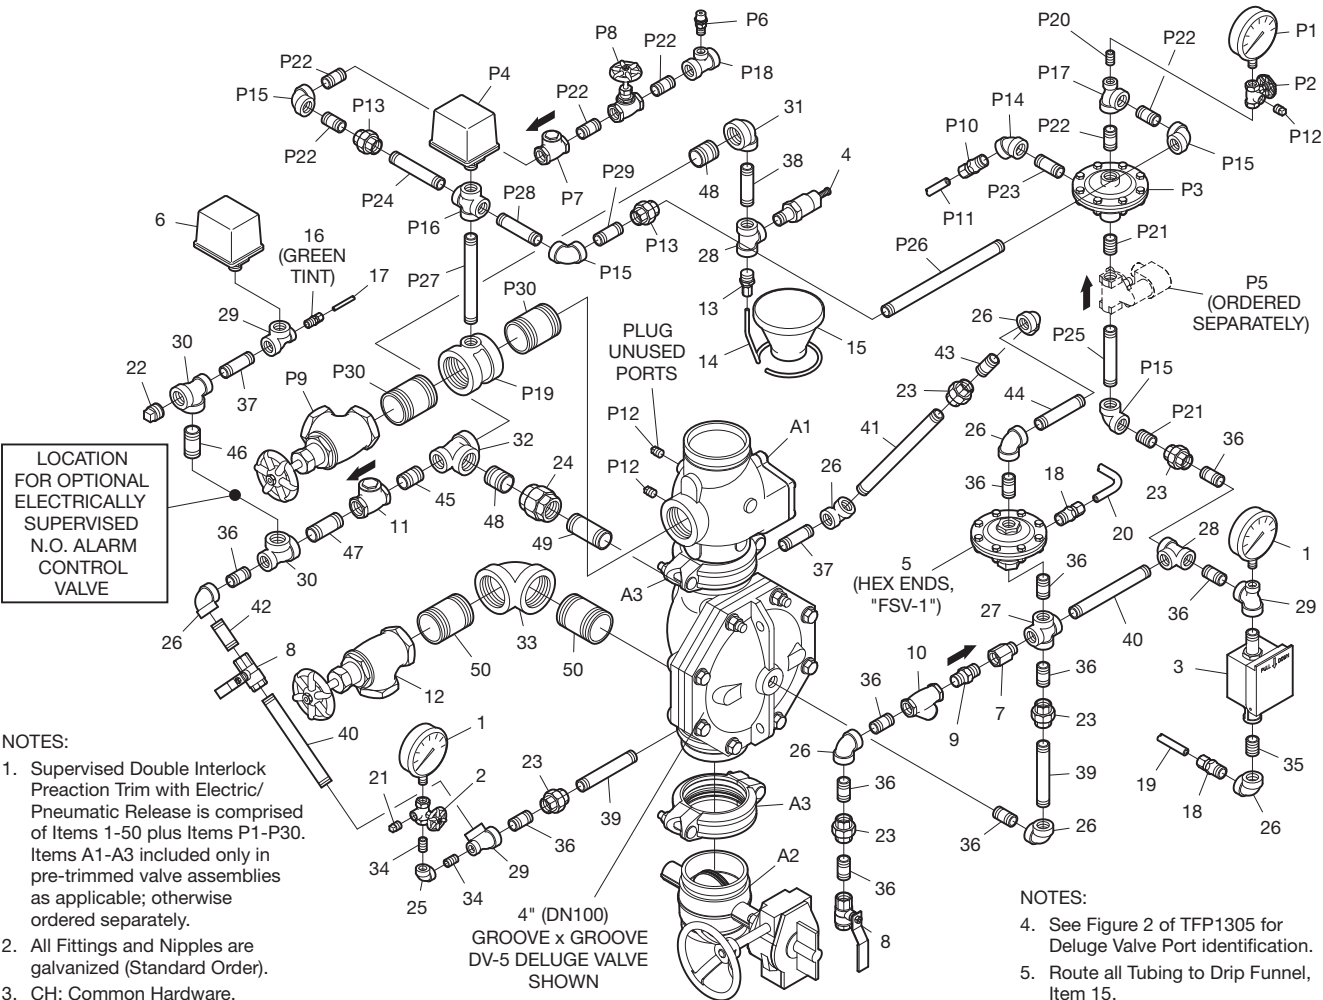

FIGURE 3A (3 OF 3)
2. Nipples 1-8 and Tube 1 vary in length relative to DV-5 size. Select per table. All other nipples and tubing packed unassembled shall be installed per appropriate trim exploded view, Figure 3A Part 1, 2, or 3.
The Double Interlock Preaction System with Electric/Pneumatic Actuation Trim is provided with a Model FSV-1 Fail-Safe Valve (Item 5 -Fig. 3A, also described in Technical Data Sheet TFP1386); consequently, the release circuit of the Releasing Panel need only provide the standard ten minutes of alarm condition intended to energize the Solenoid Valve to open. After the ten minute duration, at which point should the Solenoid Valve become de-energized and closed (especially while operating under battery back-up), the Fail-Safe Valve will have already automatically operated to constantly vent the DV-5 Diaphragm Chamber, thereby preventing the DV-5 Diaphragm Chamber from becoming repressurized and preventing an inadvertent closing of the DV-5 during a fire event.